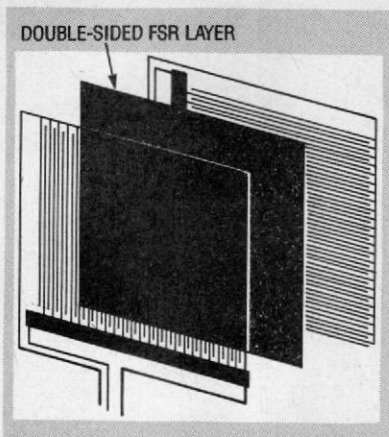

FIG. 7—AN XYZ PAD IS TWO FSR-LP'S back-to-back and perpendicular to each other.
An XYZ pad or tablet is constructed by placing two FSR-LP's back-to-back and perpendicular to each other. An XYZ pad can measure the position of a force on an X-Y coordinate plane, as well as the applied force (Z). Figure 7 shows the layered construction of an XYZ pad. Note that an unambiguous